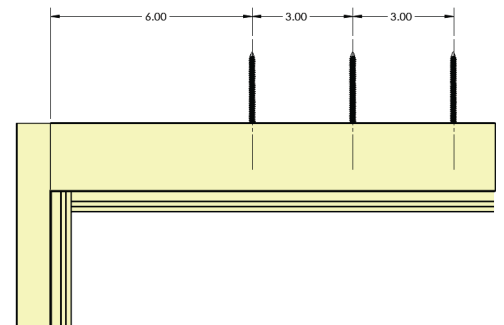

Figure 6:
A. Head at Pivot Jamb: At the end of the Head, where the head carries the Pivot Panel. Install 3 anchors 6” from the end, 3” O.C. (to carry the first 2 panels); Add 3 anchors for each additional pair of panels or 2 anchors for a single swing panel (Figure 6).